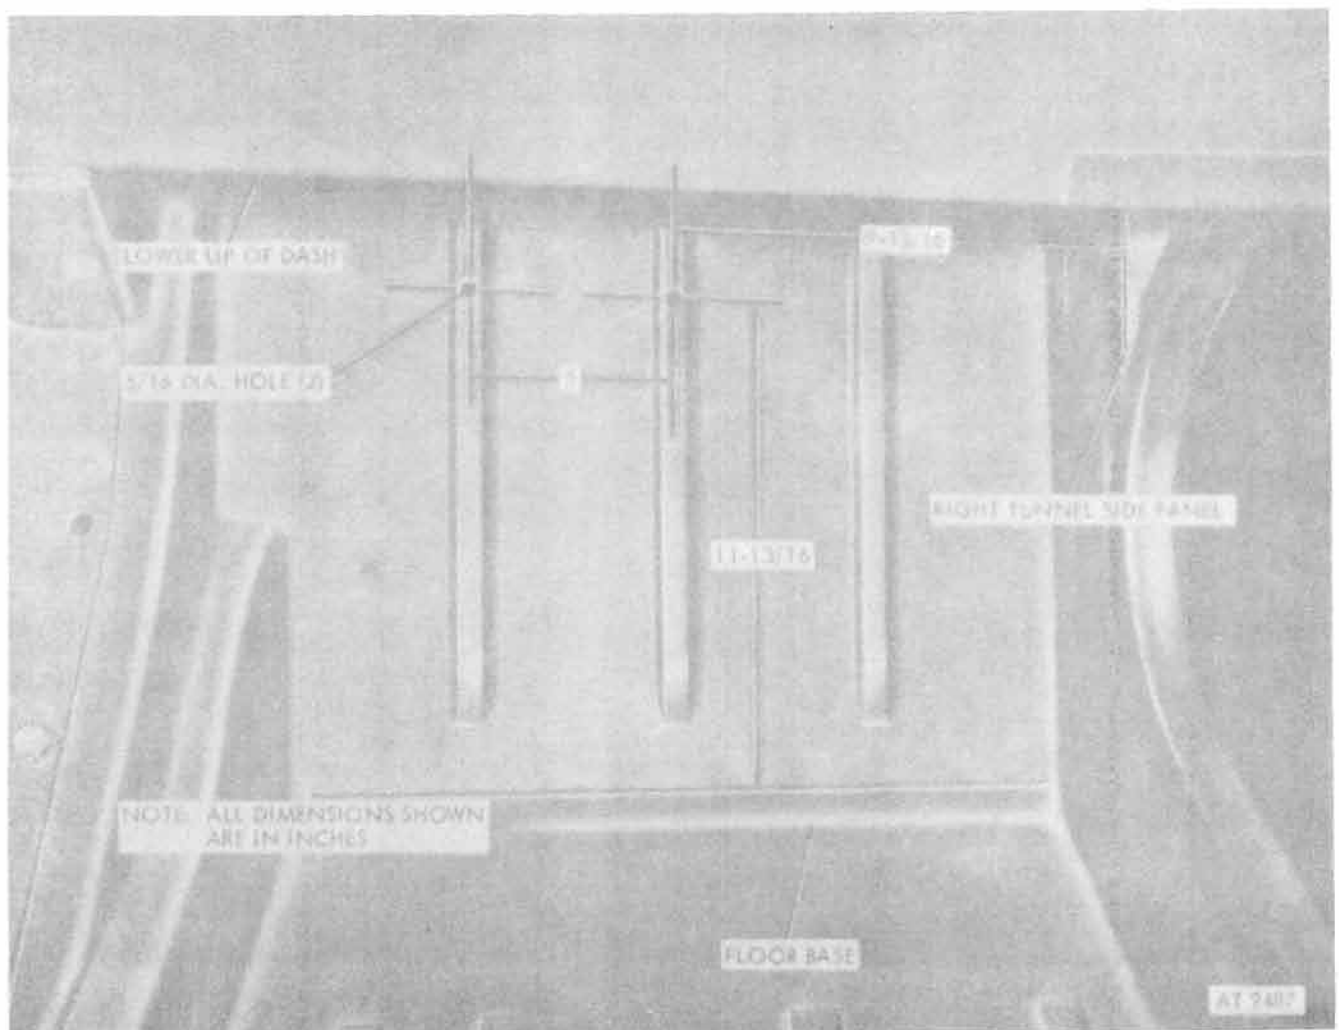

Figure 18-66. Right toeboard drilling.
- f. Locate and drill two 5/16-inch diameter holes in toeboard (fig. 18-66).